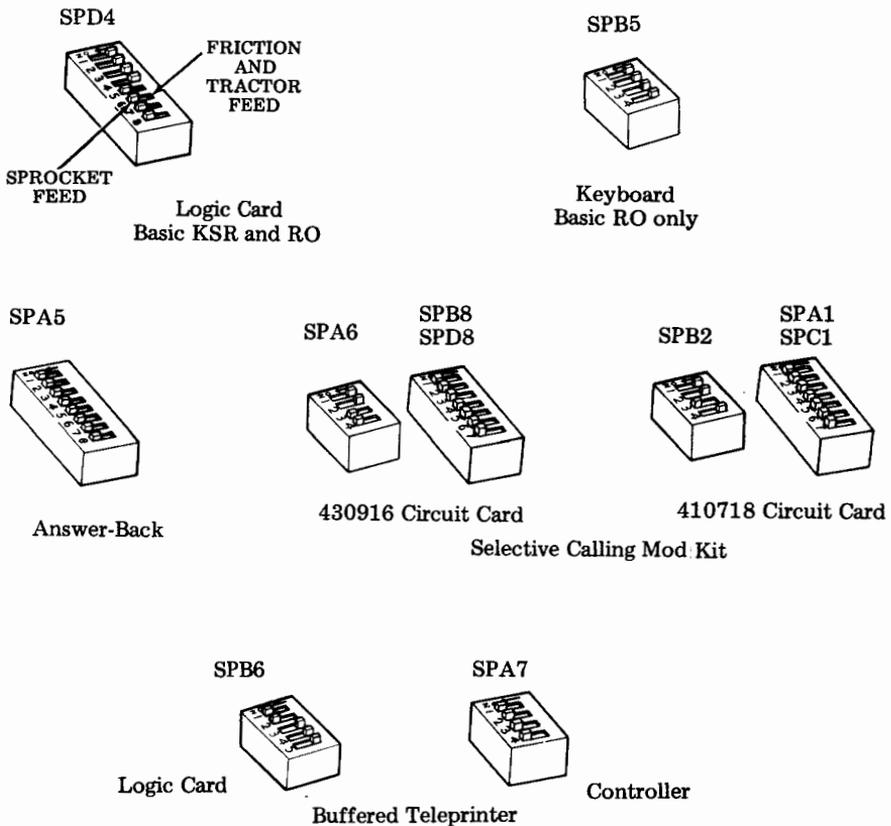

Fig. 1—Standard Switch Positions
1.08 The option switches are factory optioned and should not be changed unless the local engineering requirements specify incorporating a nonstandard option (Fig. 1).